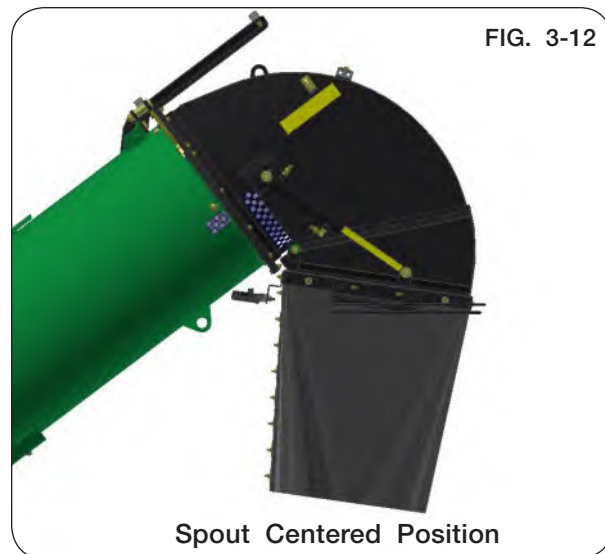

FIG. 3-12
7. After PTO has come to a complete stop, align the checkered flag decals to locate center as shown in FIG. 3-12.